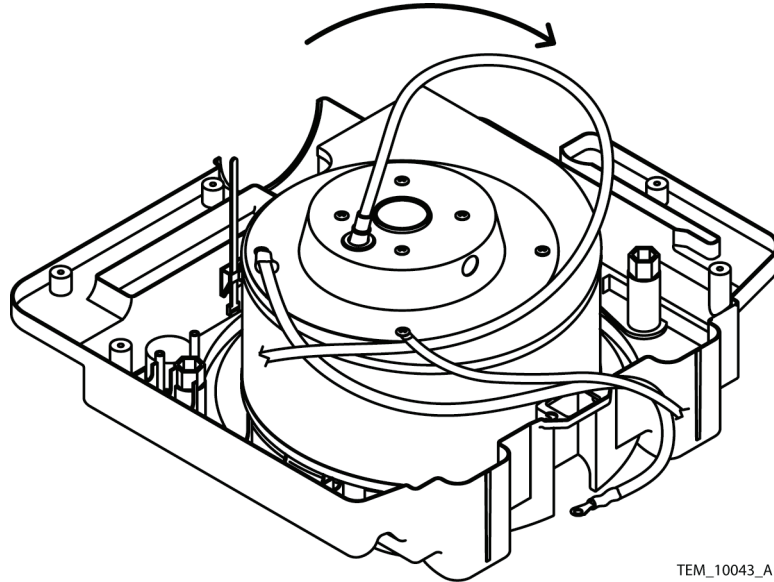

Figure 46. Blower Motor Removal
8. Rotate the blower motor assembly clockwise to disengage two of the four clips. See Figure 46 and Figure 47.